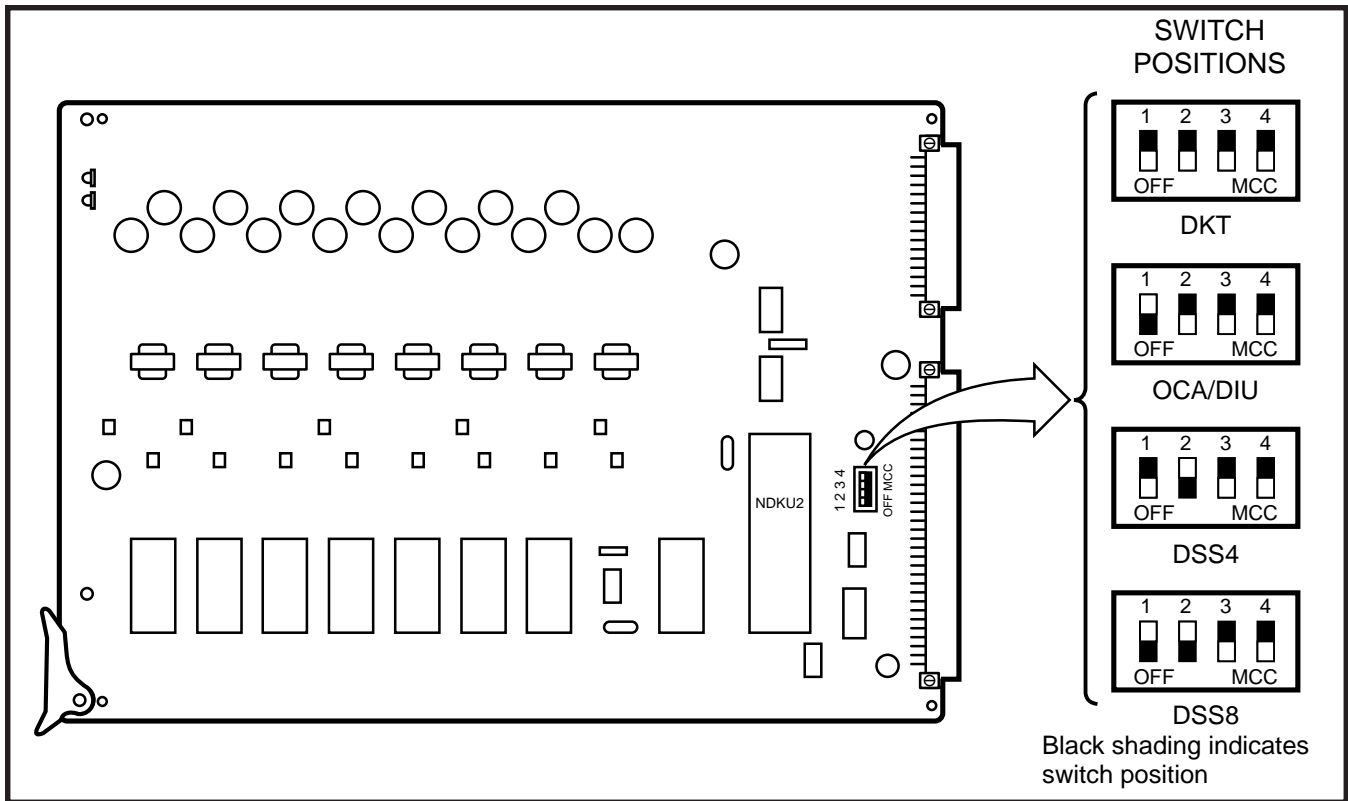

FIGURE 4-17—NDKU SWITCH OPTIONS
**3.45** The NDKU employs a 2B+D architecture for each circuit that must be configured for one of four different operating options using the dip switch S1 (Figure 4-17) as follows: